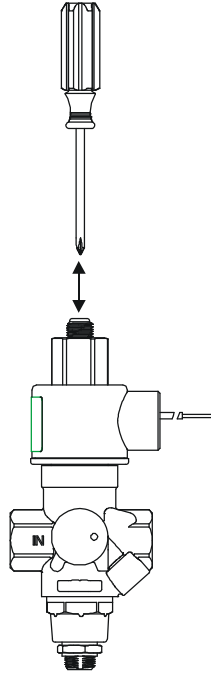

Figure 6: Manual Override Operation
- c. Wait 15 minutes. Use manual override button (option) on some BGX models by depressing the reset (see Figure 6) if there is no power to the solenoid. Releasing pressure on the reset allows the button to return to its original position and internally open the valve, allowing gas to flow to the heater.